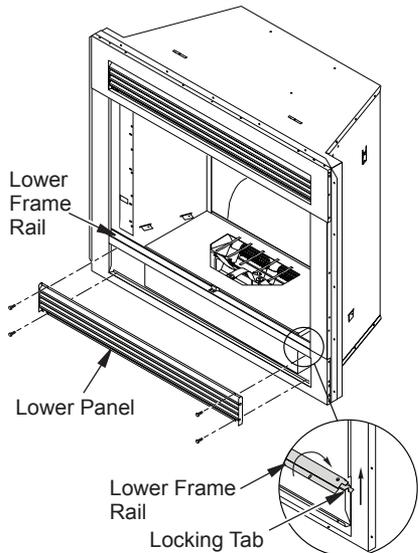

Figure 38 - Removing Lower Louver Panel and Frame Rail
2. Remove 4 hex screws on lower louver panel and detach louver assembly from front face (see Figure 38).
3. Rotate top edge of lower frame rail inward and lift upward until locking tabs detach from front face (see Figure 38).